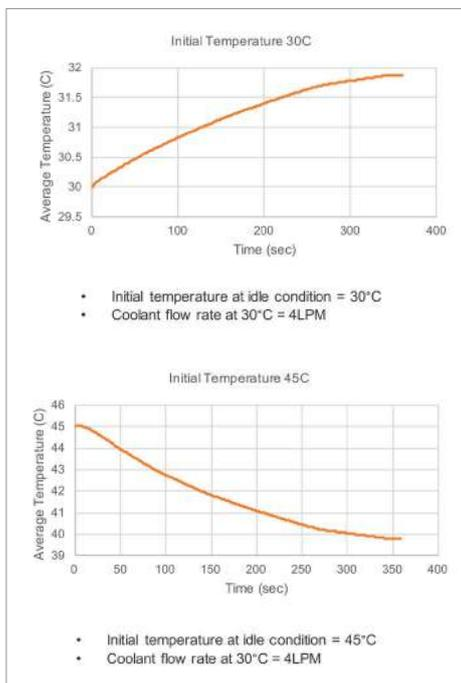

Figure 7: Stabilization patterns that are likely in EV Battery TMS
• **How important is pre-cooling for Indian conditions? Take a look at Figure 7.**